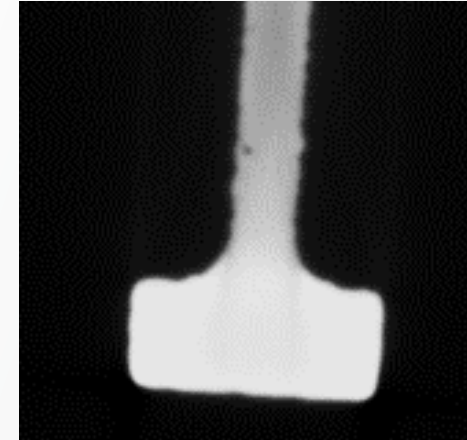

Fig.1: internal pore and surface roughness
- identification of regions where surface roughness may be an issue as the surface comparison is required (Fig.1)